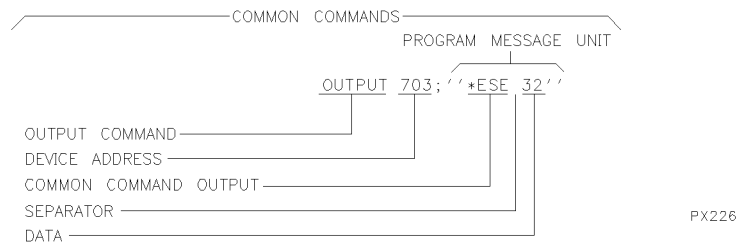

Figure 8-1. IEEE 488.2 Common Command Format
- The commands are usually only four or five characters long and are preceded with an asterisk (*). They may include parameters, and use “white space” to separate the command mnemonic from the parameter. Refer to Figure 8-1 for an illustration of an IEEE 488.2 common command.